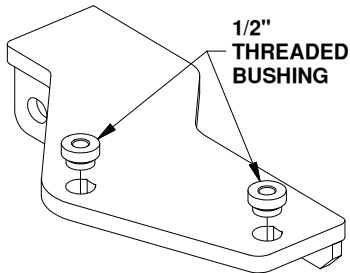

Figure B2: Front passenger cross member bracket
1. **Install threaded bushings.** Install two 1/2" threaded bushings into each of the four cross member brackets. Align each bushing into the holes and tap in until the rim of the bushing is flat against the top of the bracket, see Figure B2.